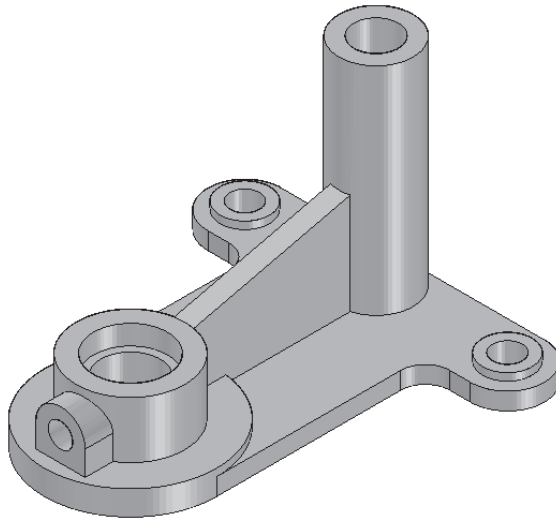

Figure 7-81 Model after creating the rib feature
- Create the rib feature, refer to Figure 7-81.
7. Choose **Finish** from the ribbon bar to create the rib feature. The final model, after creating the rib feature, is shown in Figure 7-81.